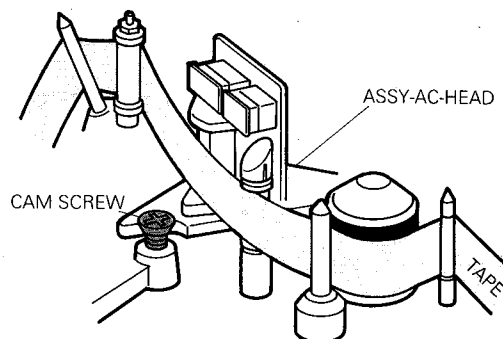

Fig. 4-29
- E. Rotate the phase adjusting nut (CAM SCREW) shown in Fig. 4-29 and adjust FM output to maximum.